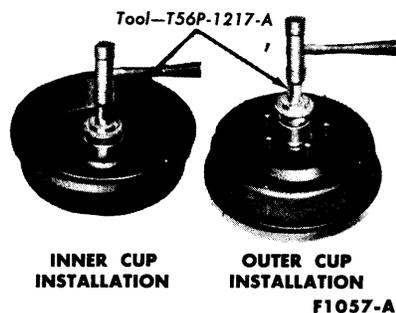

FIG. 6—Front Wheel Bearing Cup Installation
If the brake drum will not come off, insert a narrow screwdriver through the brake adjusting hole in the carrier plate, and disengage the adjusting lever from the adjusting screw. While thus holding the adjusting lever away from the adjusting screw, back off the adjusting screw with the brake adjusting tool (Part 8-4, Fig. 6). **Back off the adjustment only if the drum cannot be removed. Be very careful not to burr, chip, or damage the notches in the adjusting screw; otherwise, the self adjusting mechanism will not function properly.**
6. If the inner and/or outer bearing cup(s) were removed, install the replacement cup(s) in the hub with the tool shown in Fig. 6. **Be sure to seat the cups properly in the hub.**
9. Place the inner bearing cone and roller assembly in the inner cup, and install the new grease retainer with the reverse end of the tool shown in Fig. 6. **Be sure that the retainer is properly seated.**
3. Clean the new hub and drum assembly. Install new inner and outer bearing cups in the new hub with the tool shown in Fig. 6. **Be sure to seat the cups properly in the hub.**